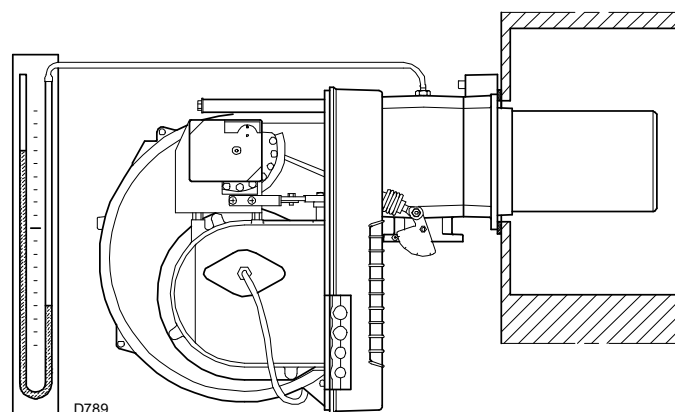

Fig. 20
- Fit a U-type pressure gauge (Fig. 20) to the gas pressure test point on the pipe coupling. Used to roughly calculate MAX burner output using the tables Tab. H on page 19.
In this case increase gas ignition delivery. The arrival of gas at the pipe coupling is indicated by the U-type pressure gauge (Fig. 20 on page 23).
A rough indication can be obtained from Tab. H on page 19, just read the gas pressure on the pressure gauge see Fig. 20 on page 23, and follow the indication given in Tab. H on page 19.